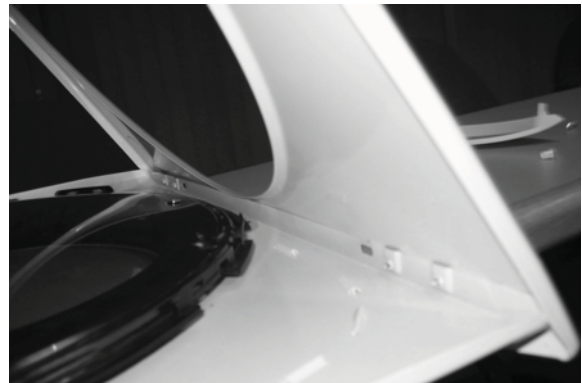

Figure 11
12. Reassembly outer door to inner door assembly. (Figure 11)
13. Install four (4) screws securing hinge to door assembly in the new location, take note to place hinge in correct orientation.
14. Install four (4) screws into holes that had secured the hinge.